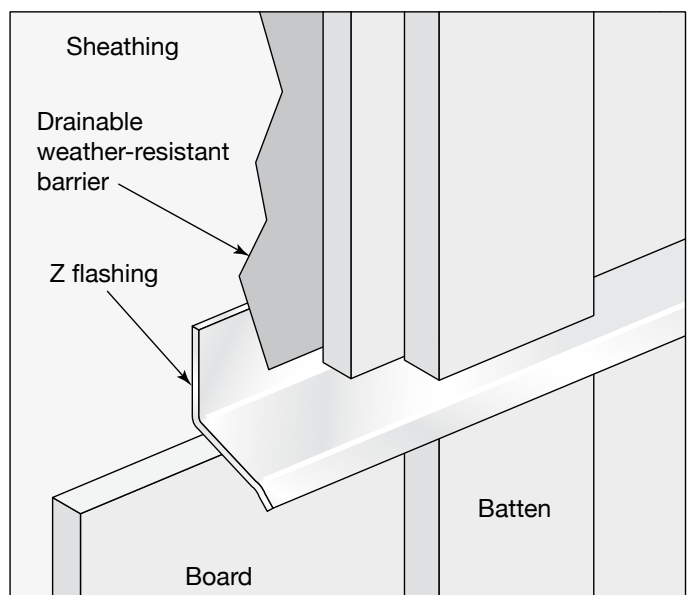

Fig. 7b
- Use a piece of Z flashing tucked under the drainable weather-resistant barrier that extends to the front of your battens (**Fig. 7b**).